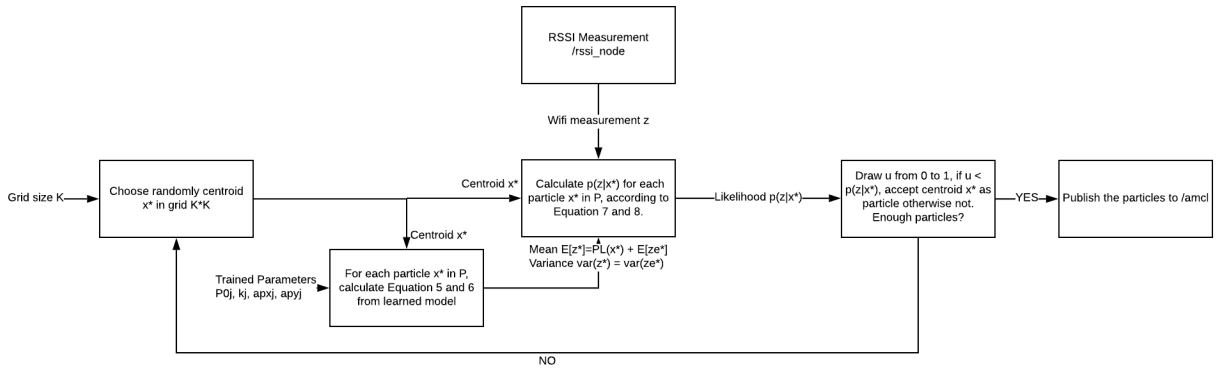

Figure 1: Process flow (1) diagram of Wifi Particles Generation
- **Generate Wifi Particle cloud as prior distribution for faster global localization on amcl.** This process is depicted in Figure 1.